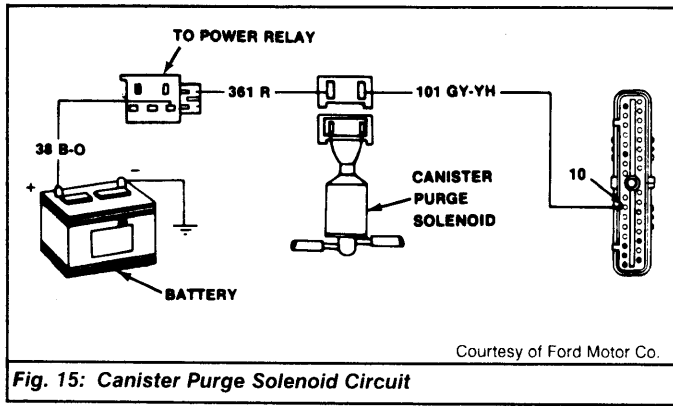

Fig. 15: Canister Purge Solenoid Circuit
- 1) With ignition on, test for battery voltage at Red wire (circuit No. 361) at canister purge solenoid. If battery voltage is available on circuit No. 361, you can ground Gray/Yellow Hash wire (circuit No. 101) and the canister purge solenoid should open. See Fig. 15.